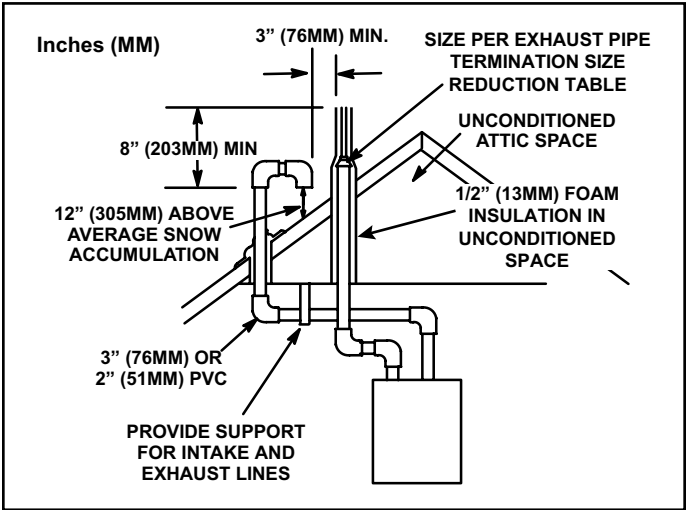

Figure 36. Direct Vent Roof Termination Kit
Intake and exhaust pipes may be routed either horizontally through an outside wall or vertically through the roof. In attic or closet installations, vertical termination through the roof is preferred. Figure 36 through Figure 44 show typical terminations.
- 3. On roof terminations, the intake piping should terminate straight down using two 90° elbows (See Figure 36).